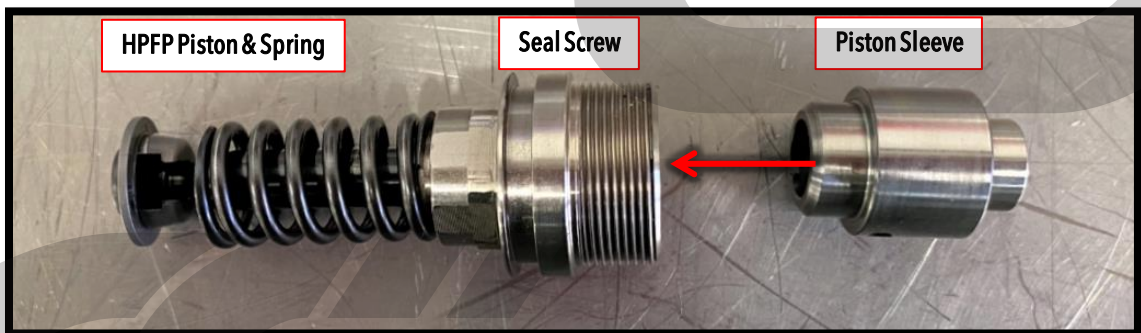

Figure 6n
- q) **CorkSport HPFP Internals** : Slide your piston sleeve over the end of your piston in the direction shown with the **red arrow** in **Figure 6n**. Ensure the larger end of the piston sleeve faces the seal screw.